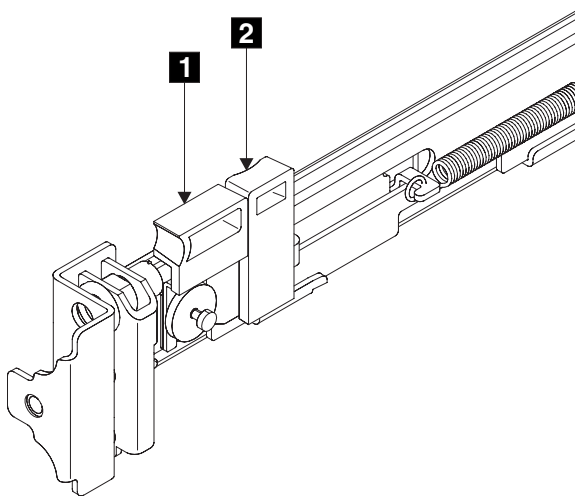

Figure 125. Retracting the latch lock carrier
4. Put your finger against the side of the latch lever **1** and put your thumb against the front of the latch lock **2** (see Figure 125).